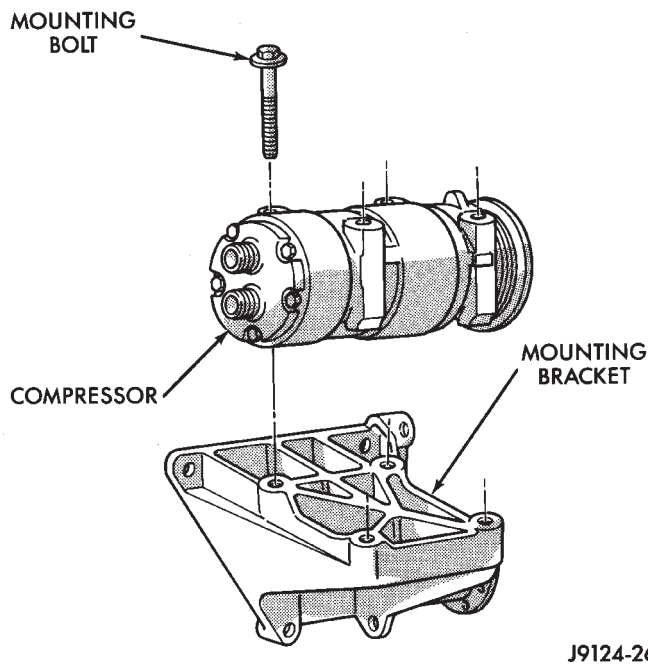

Fig. 1 Compressor and Mounting Bracket (LH Drive Vehicles)
- (1) Isolate the compressor.
- (2) Disconnect negative cable from battery.
- (3) Disconnect the clutch lead wire.
- (4) Remove the discharge and inlet (suction) service valves from the compressor. Plug or tape all the openings.
- (5) Remove the serpentine drive belt (refer to Group 7, Cooling System for the proper procedure).
- (6) Remove the bolts and lift the compressor from the mounting bracket (Figs. 1 and 2).